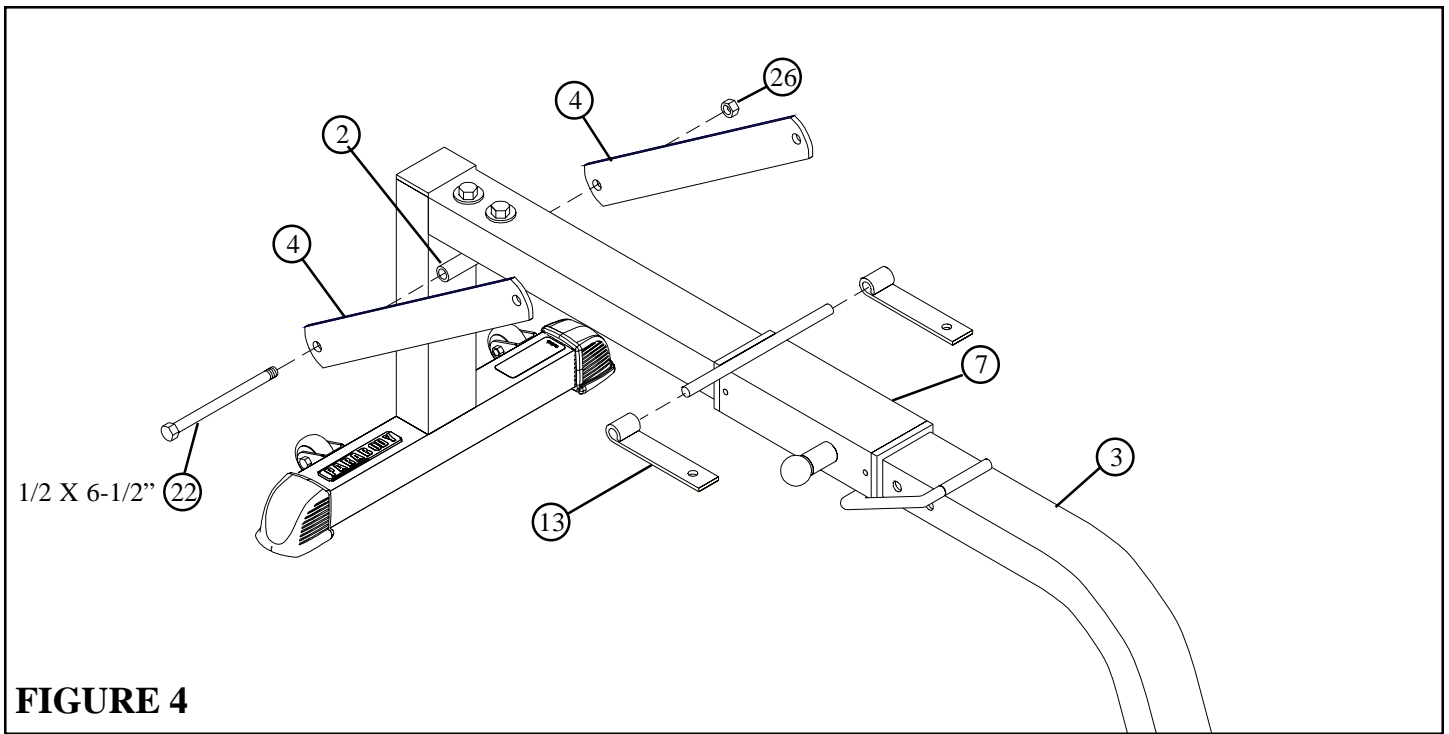

FIGURE 4
- Attach two 1/4 X 2 X 16-1/2” PLATES (4) to the bushing on the SWIVEL PLATE (2) using one 1/2 X 6-1/2” BOLT (22) and one 1/2” NYLOCK NUT (26). See FIGURE 4.
- Slide two HINGE TABS (13) over the shaft on the WOLFF SLEEVE (7) as shown in FIGURE 4.